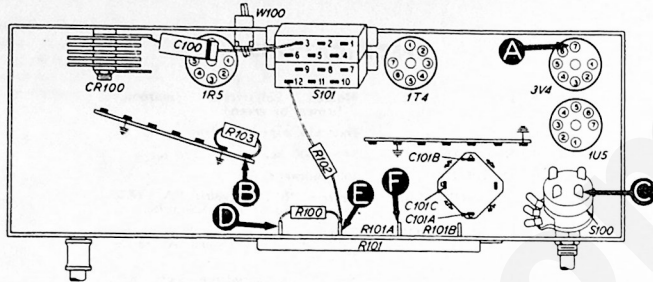

Figure 1. Bottom View, Showing Section 1 Test Points TP-5355A-1
3. Measure the resistance between B+ (output of selenium rectifier), test point D, and B—, test point B. See figure 1. When the ohmmeter leads are connected in the proper polarity, the highest resistance reading will be obtained. If the reading is lower than 2000 ohms, check condensers C101A and C101B for leakage or shorts.